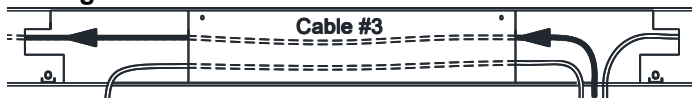

Fig 12 - Cable #3 Routing
- 11) Starting from the rear of the lift. Identify **Cable #3** using Fig 4. Route **Cable #3** through the access hole and out the end of the crossbeam. Fig 12 & 13.